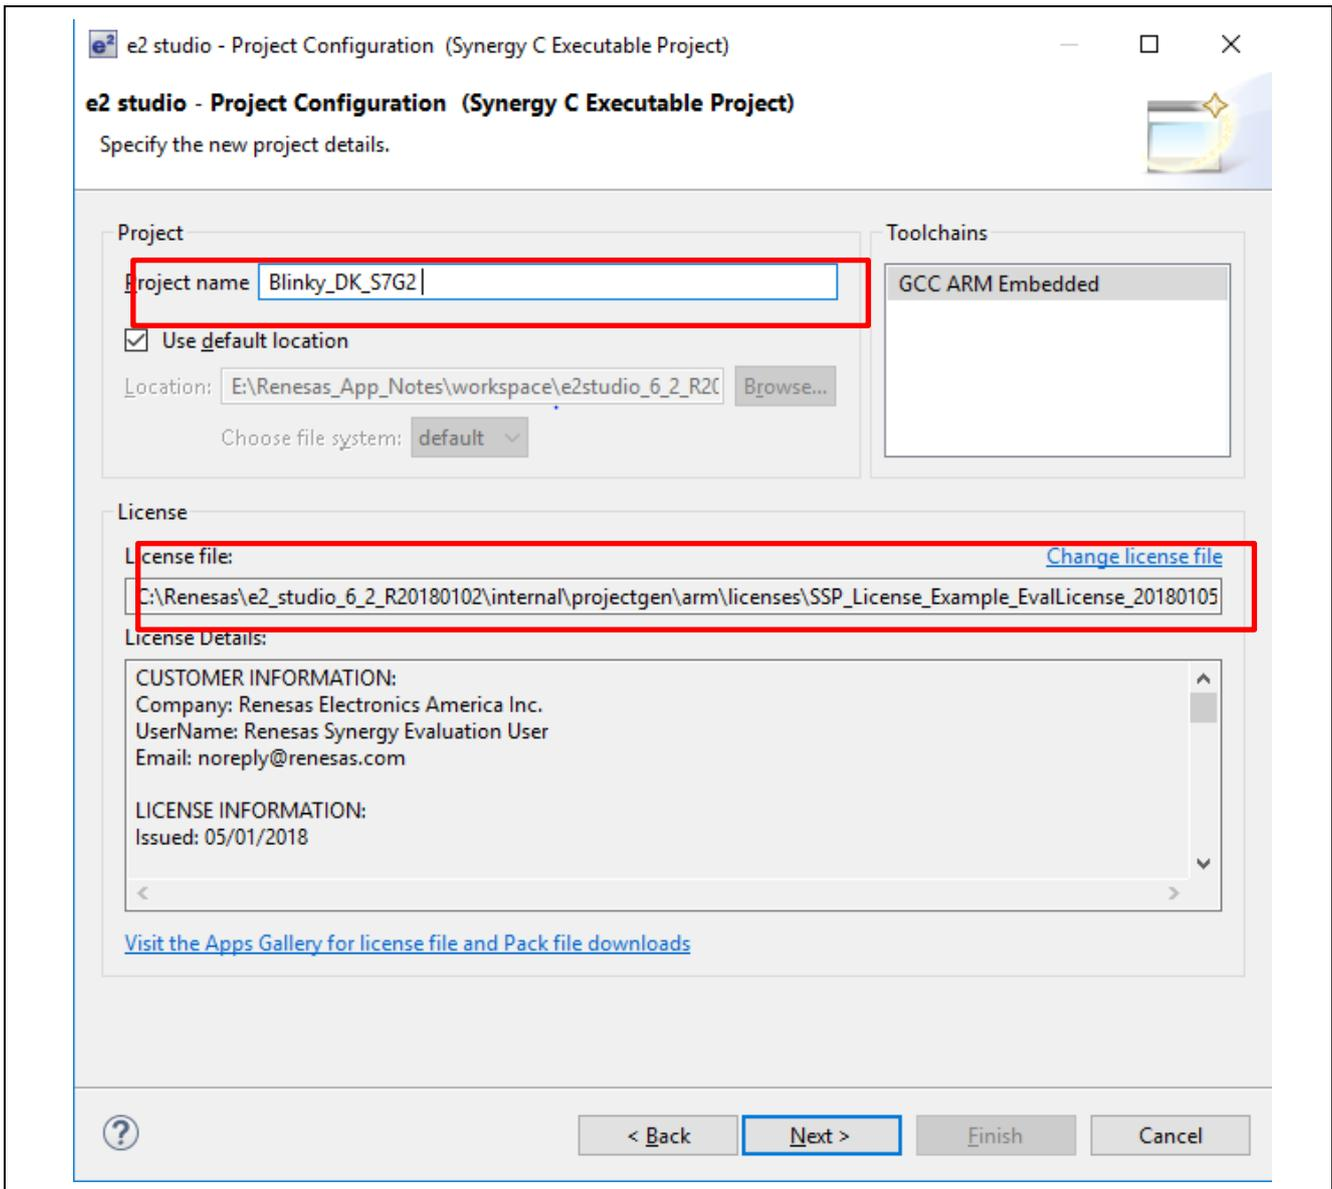

Figure 3 Entering the project name and license file
3. Enter the name of the project, such as **Blinky_DK_S7G2**, as required in the dialog box (Figure 3). Click **Next**.
4. Make sure the License file (Figure 3) is set to the new **SSP version 1.4.0**.